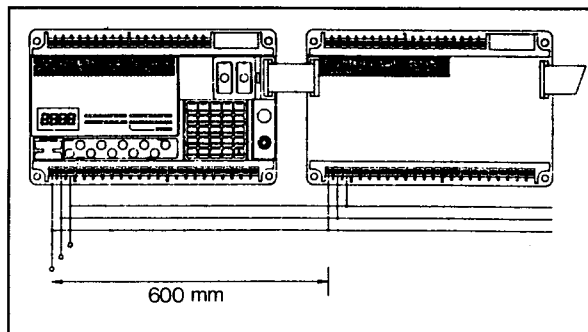

Fig. 8/4: Voltage supply
- 4) The voltage supply to the extension device via the CPU is shown in Fig. 8/4.